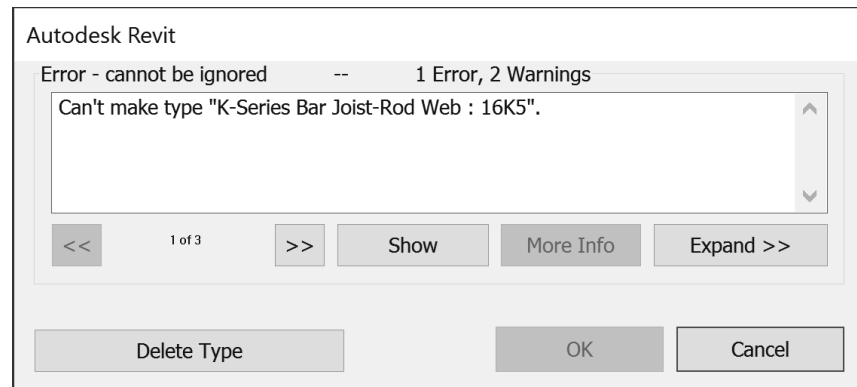

FIGURE 8-4.14 Warning message
- b. Also, for the curved area, click *Delete Type* to continue when prompted (Figure 8-4.14).